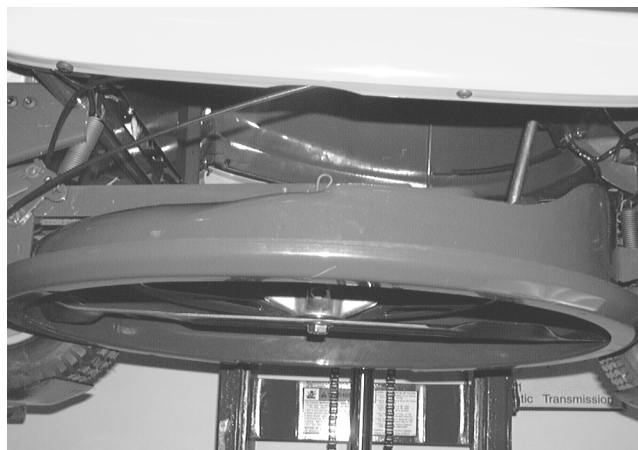

FIGURE 2.
- 1). Using a work glove or rag, rotate the mowing blade until it is parallel with the rider frame. See figure 2.